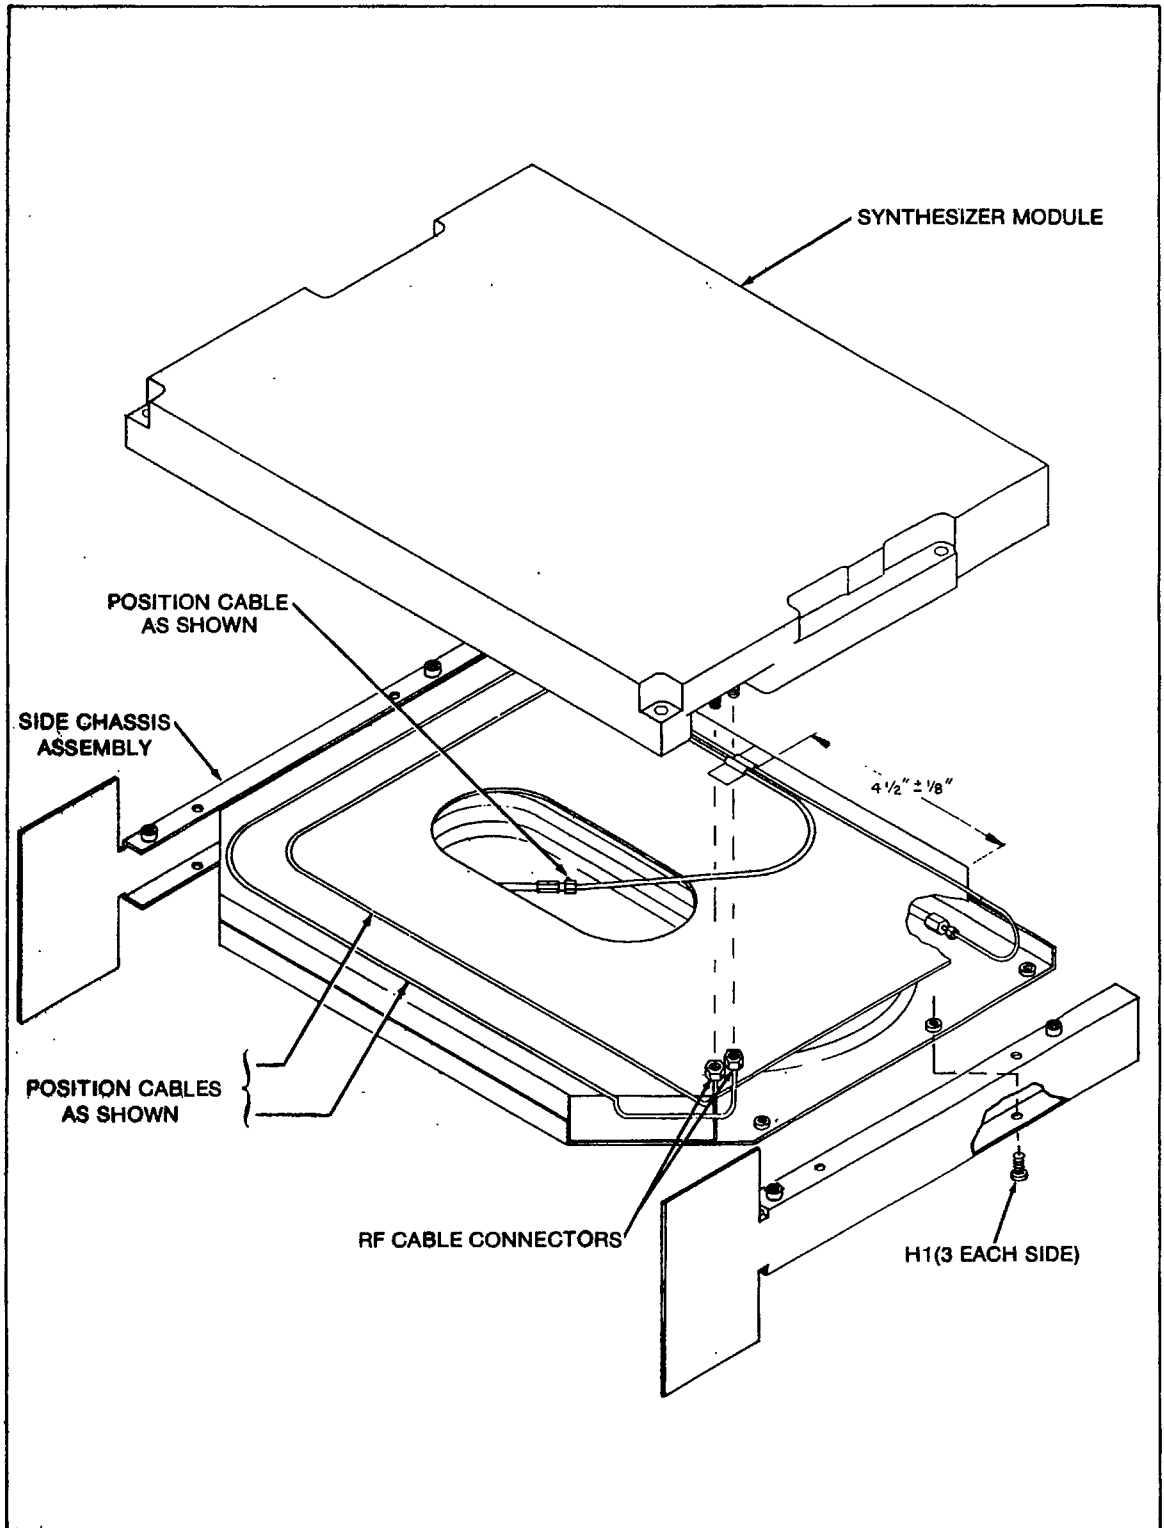

Figure 3-11. Cable Locations
To avoid cable damage when swinging the Synthesizer Module back in place, make sure that the cables between the synthesizer plate and the Delay Line are in the positions shown in Figure 3-11.
c. Swing the Synthesizer Module completely into position; make sure that the semirigid coaxial cables between the Synthesizer Module and the Delay Line are in the positions shown in Figure 3-11. This insures that these cables are not